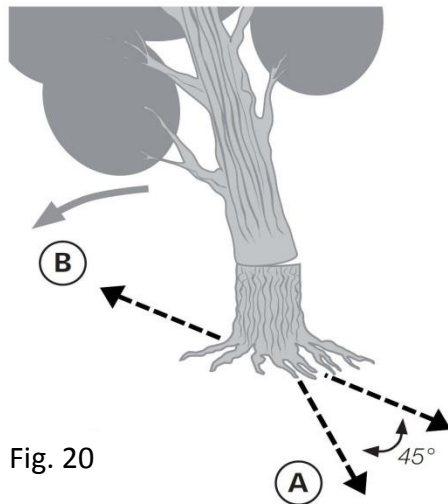

Fig. 20
**Warning:** When the felling cut (D) has been made so deep that only the hinge (F) is left, the tree can begin to fall, otherwise you must use a felling wedge or crowbar to help. When the tree begins to fall, remove the chainsaw from the cut and switch off the motor. Retreat diagonally backwards and to the side along your planned escape route and keep your eye on the tree while it is falling (fig. 20).